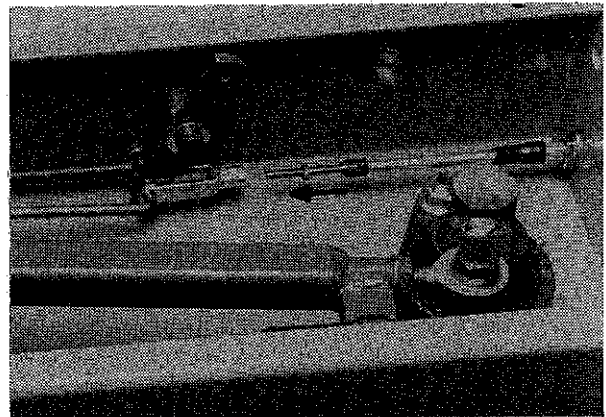

Figure 11
- Step 8 Line up the linkage end of the cable with the end of the small clevis on the linkage assembly. The clevis should always be near the bottom panel of the operating head as in figure 11.